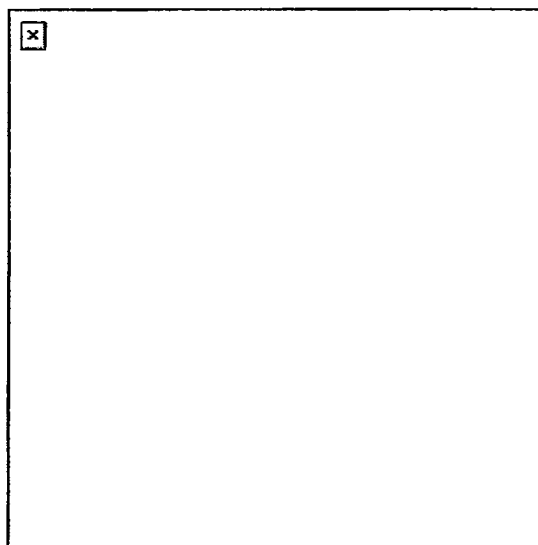

Figure 191-381-1369-5
15. Lower the internee slowly and simultaneously to the bunk or floor with the other team members upon receipt of the command to lower the internee. Use the minimum amount of force necessary to subdue the internee if he struggles (Figure 191-381-1369-5). Perform the following duties as assigned: